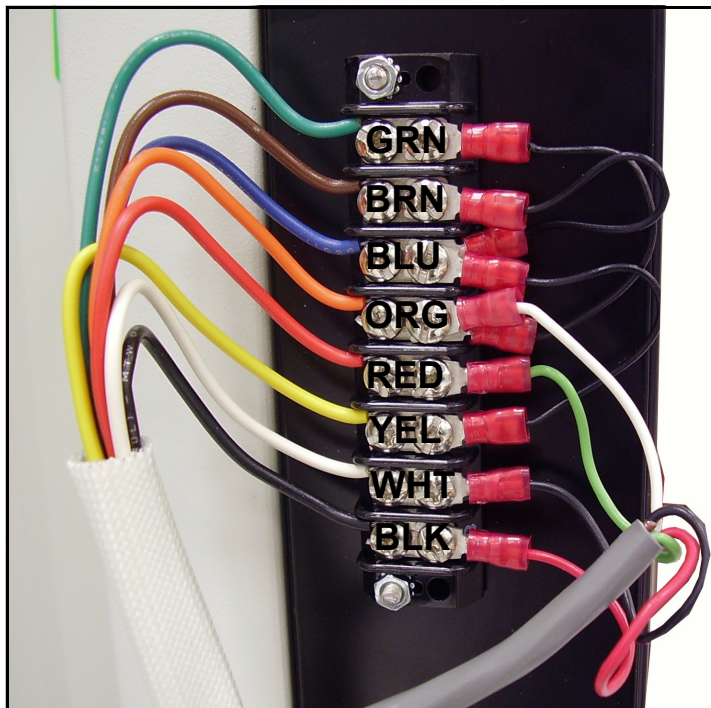

Figure 6-17. PBL Wiring Diagram
- 5 Reverse steps to reassemble. Use Figure 6-17 as a wiring guide.